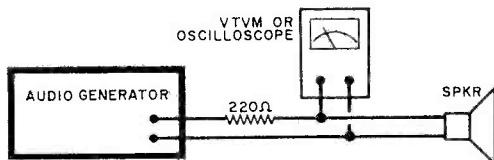

Fig. 1. Resonant frequency of speaker in free air is indicated by peak VTVM or oscilloscope reading.
BY ADDING only two semiconductors to a miniature battery-powered toy car (or any other battery-driven toy), you can control its operation with a conventional flashlight at distances up to 15 feet or more. Two circuits are shown in Fig. 1, one for *pnp* power transistors (a), and one for *npn* power transistors (b). Regardless of which type of power transistor you elect to use, operation is similar.
Fig. 1. Whether you use circuit (A) or (B) depends on the type of power transistor you have on hand, pnp or npn. Motor M, battery B1, and switch S1 are components within the toy itself.
The motor, battery, and on-off switch (S1) are an integral part of the toy. The easiest installation procedure is to break the lead from the battery terminal to the on-off switch and connect the power transistor as shown in either Fig. 1(a) or (b).
The first step in matching an enclosure to a specific speaker is to find the free air resonance of the speaker. A "no equipment" method will be explained later, but typically, an audio generator and an a.c. voltmeter (any VTVM) wired as shown in Fig. 1 are used. The output of a glide-tone frequency test record fed through a hi-fi amplifier may be substituted for the audio generator. A run from 200 Hz down to 20 Hz will locate speaker resonance by a peak in the voltage across the voice coil. (See Fig. 2.) Let's call this frequency " f_r " to identify it.